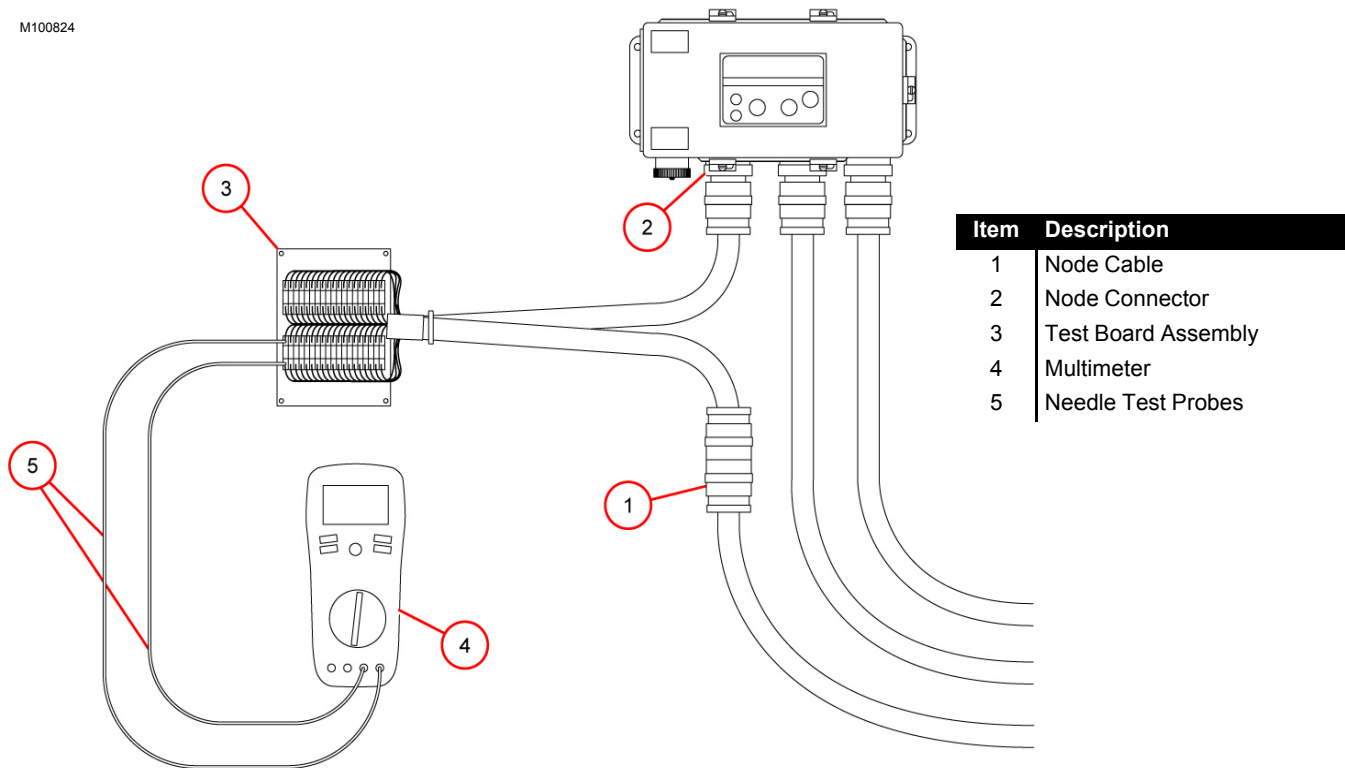

Figure 3-20. Test Board Setup
The breakout test kit provides a breakout of the node signals to easily probed terminal connections. Each node connector (2) Figure 3-20 on page 3-16 is keyed uniquely and requires a matching keyed test board assembly (3) from the Electrical Test Kit.